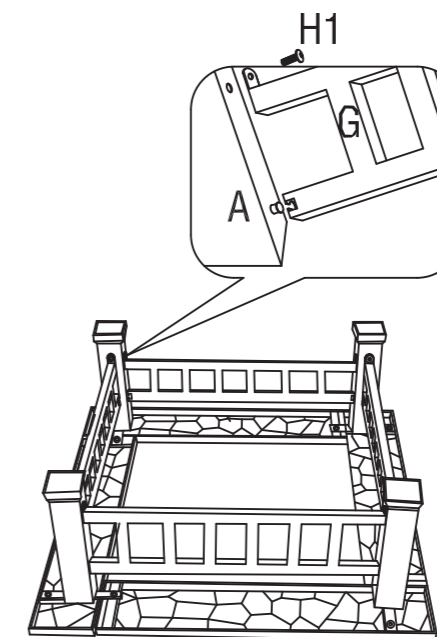

FIG3
Step 3 Mount Ladder Frames (G) to the studs pre-installed on the Corner Posts (A) . then attach the Ladder Frames (G) to the Corner Posts (A) by using Bolts (H1). (View Fig 3) .